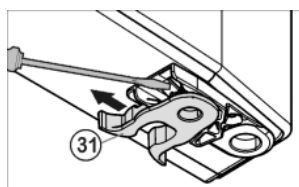

Fig. 9
- ▶ Turn around the spring clamp Fig. 9 (31): Press down the detent lug and pull the spring clamp up and over to remove it.